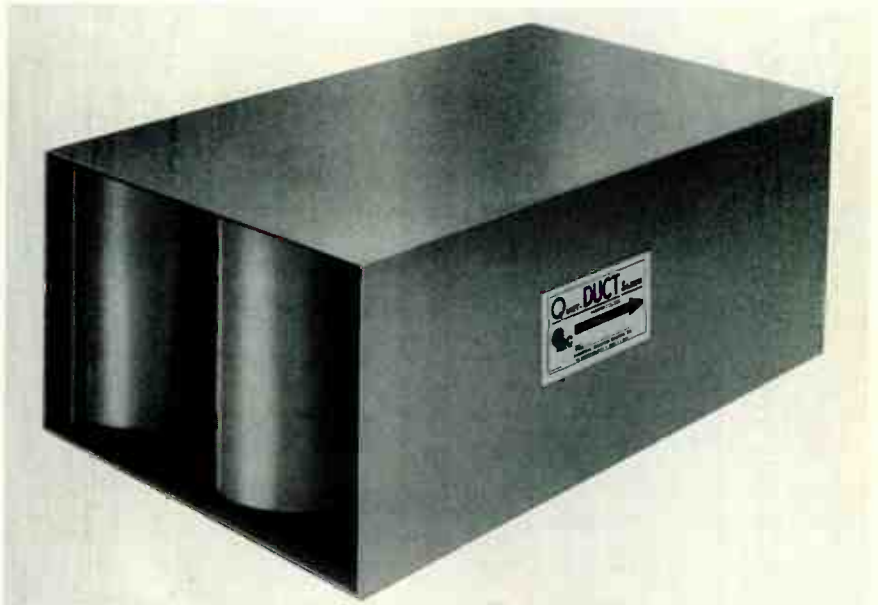

Figure 3. Typical Duct Silencer
2. Mid-frequency noise that is typically generated from the equipment noise being "passed down" through the ductwork system. Lining the ducts, both supply and return as well as the use of duct silencers again in the supply and return) will usually solve this problem (see fig. 3). These silencers work similarly to mufflers in an automobile and, in fact, one type actually looks a little bit like one.